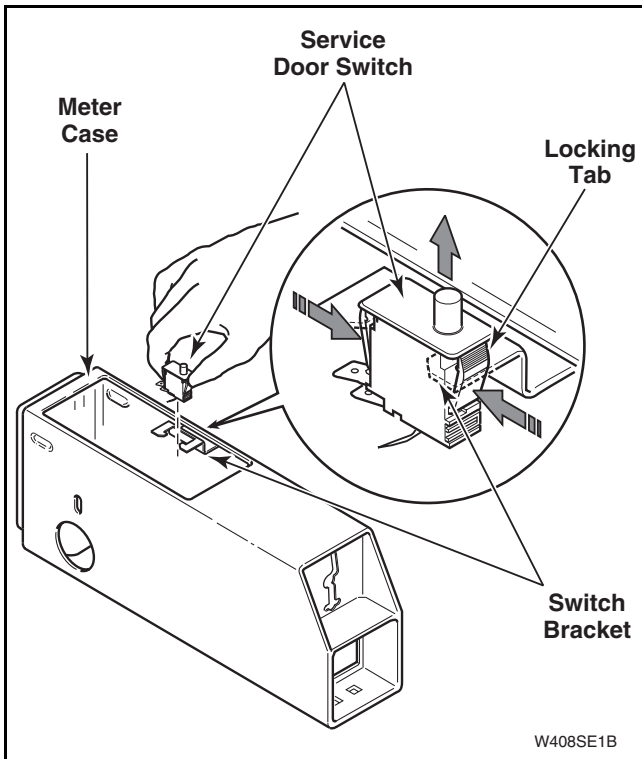

Figure 25
- (2) Disconnect wire harness from coin drawer switch and disconnect coin drop at disconnect plugs.
- (3) Press in on locking tabs of service door switch and remove switch from bracket on meter case, as shown in *Figure 25*.